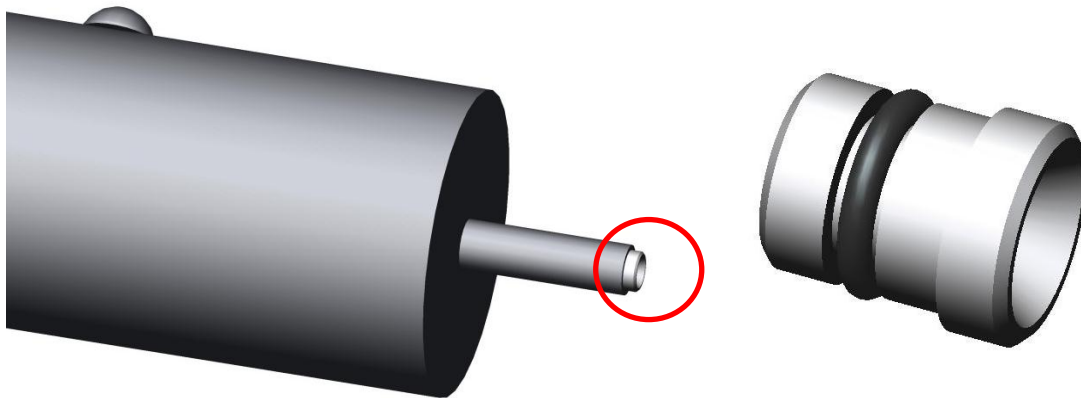

Figure 3: 3077(A) insert part number 3007022
- The second solution is an insert for the 3077(A) neutralizer (part number 3007022) shown in Figure 3 which can be installed in the inlet of the neutralizer. This insert sufficiently alters flow patterns inside the neutralizer such that flow recirculation is avoided. Current 3077(A) owners who wish to use the insert can obtain a free insert by registering with TSI at [www.tsi.com/3077kit](http://www.tsi.com/3077kit) with the serial number of the neutralizer.